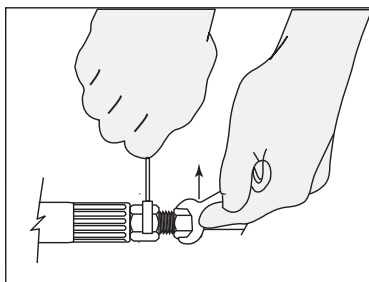

Fig. 16b
16.2 At the other end of the water hammer absorber, connect the water supply tube, using the same type of fitting used on the water supply valve. Tighten the compression nut, without stripping, with two wrenches, one to hold the water hammer end, and one to turn the compression nut. Please see Fig. 16b.